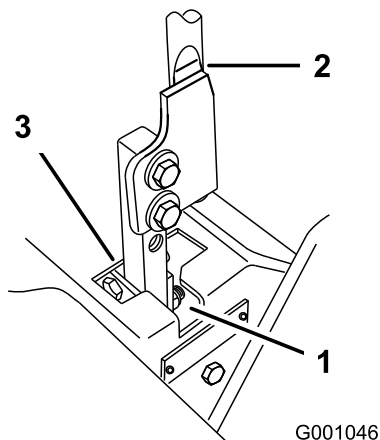

Figure 68
5. Move the lever to the neutral position but not locked (Figure 68).
6. Pull the lever back until the clevis pin (on arm below pivot shaft) contacts the end of the slot (just beginning to put pressure on the spring) (Figure 68).
7. Check where the control lever is relative to notch in console (Figure 68). It should be centered allowing lever to pivot outward to the neutral lock position.